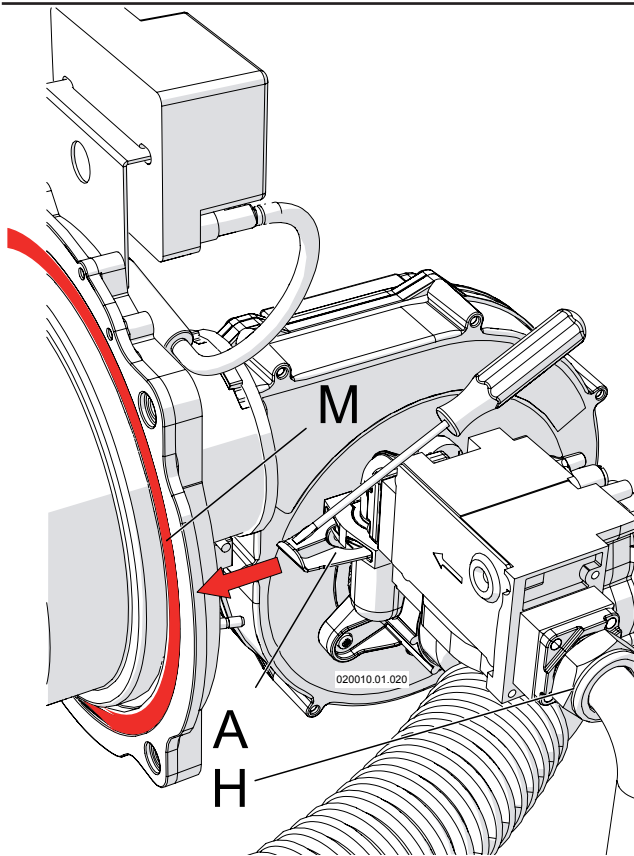
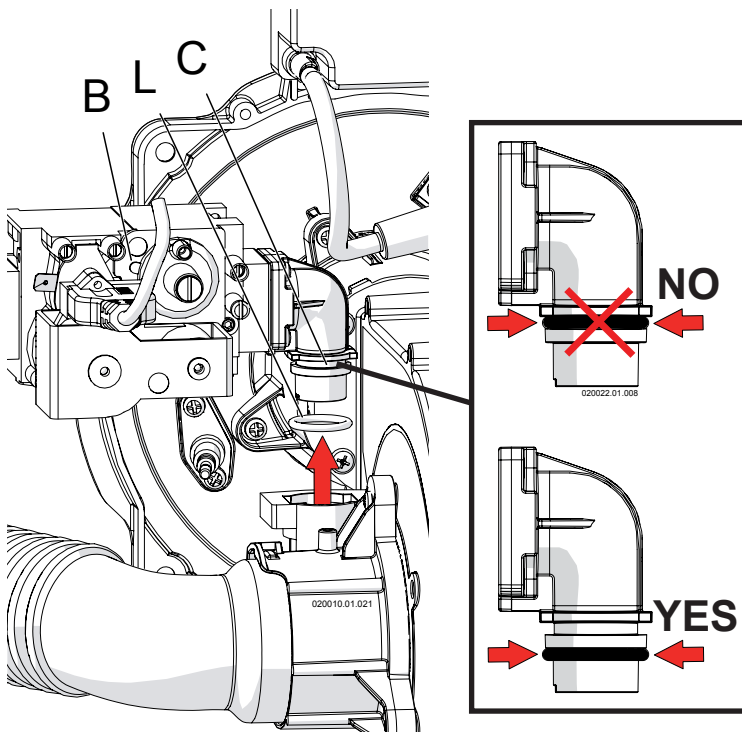

Figure 16-5 Nut and spring that fixes the gas valve
Figure 16-6 Remove the gas valve
- 7.- Unscrew nut "H" (Figure 16-5). Pay attention to the gasket between nut "H" (Figure 16-5) and the gas valve;
- 8.- Take away the spring "A" as per Figure 16-5. Help yourself with a screwdriver;
- 10.- Remove the gas valve from its position (see Figure 16-6). Take care attention to the o-ring "L" of Figure 16-6;
- 17.- Replace gasket "M" as per Figure 16-5 (Part number for this gasket is in Section 18). Take care that the gasket and its site are clean;
! WARNING!!! Pay attention to the gasket "M" (Figure 16-5) during reassemble. When finished, perform a leakage test with the burner firing. Always use an approved leak detection method. Failure to comply with this warning can cause fire, extensive property damage, severe personal injury or death!
- 18.- Reassemble the components by proceeding in reverse order. Pay attention in the reinstalling of gasket between nut "H" of Figure 16-5 and of the o-ring "L" of Figure 16-6. These must be in good condition. If not they must be replaced with;